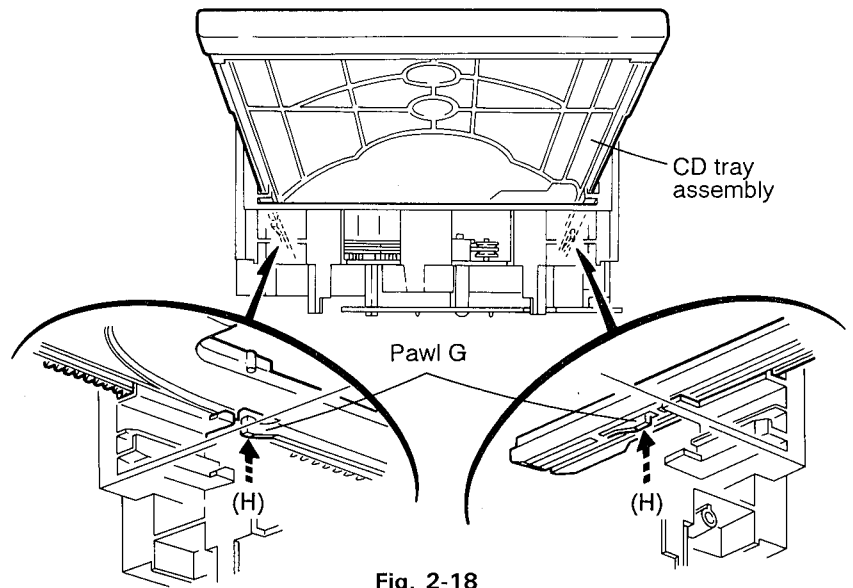

Fig. 2-18
14. At the position where the CD tray assembly has stopped, pull out the CD tray assembly while pressing (H) the two pawls (G) on the back side of CD tray assembly (See Fig. 2-18). In this case, it is easy to pull out the assembly when it is pulled out first from the stage CD tray assembly.